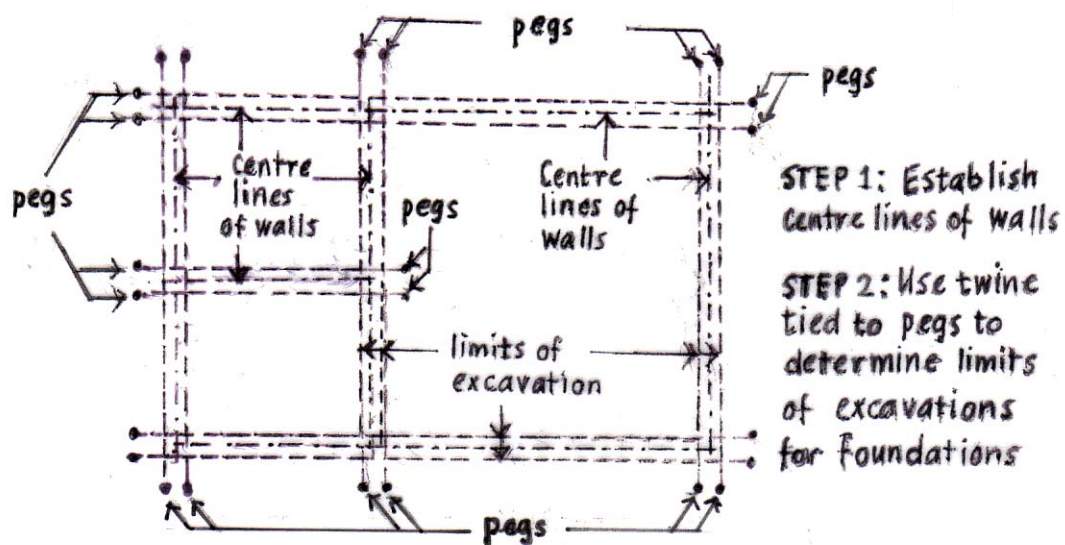

Fig 4 - Method of setting out foundations
- Established centre lines of principle walls and identified these with pegs and chords (See fig. 4)
- Used the centre lines to establish the side limits of excavations for wall foundations as per architectural/structural drawings (See fig. 4)